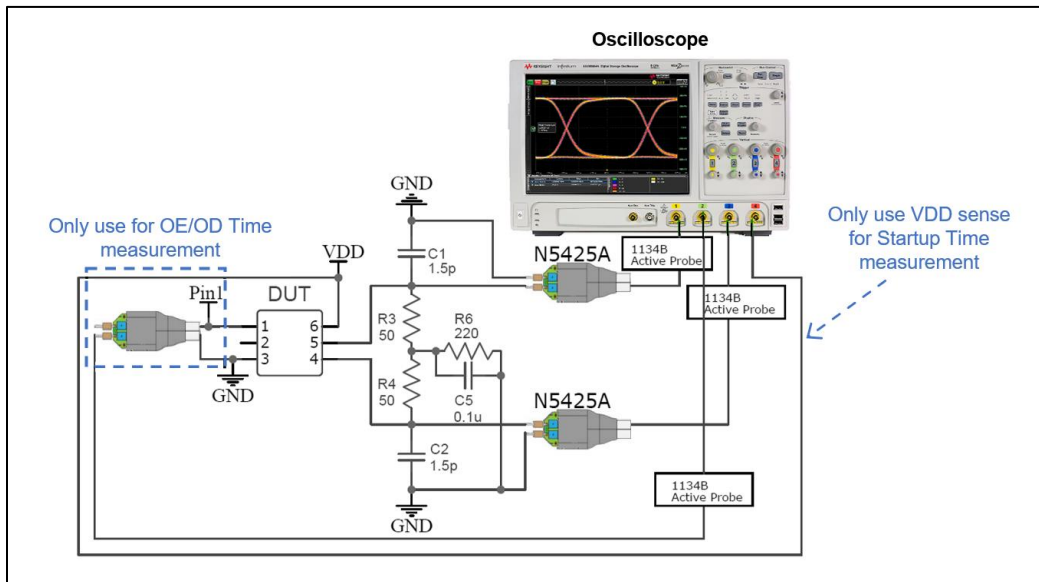

Figure 10. Test setup to measure FlexSwing Waveform Characteristics, Current Consumption^[18], Output Enable/Disable Time, and Startup Time
- 15. See Figure 10 for the test setup to measure LVPECL Current Consumption with Termination 1 or without Termination.